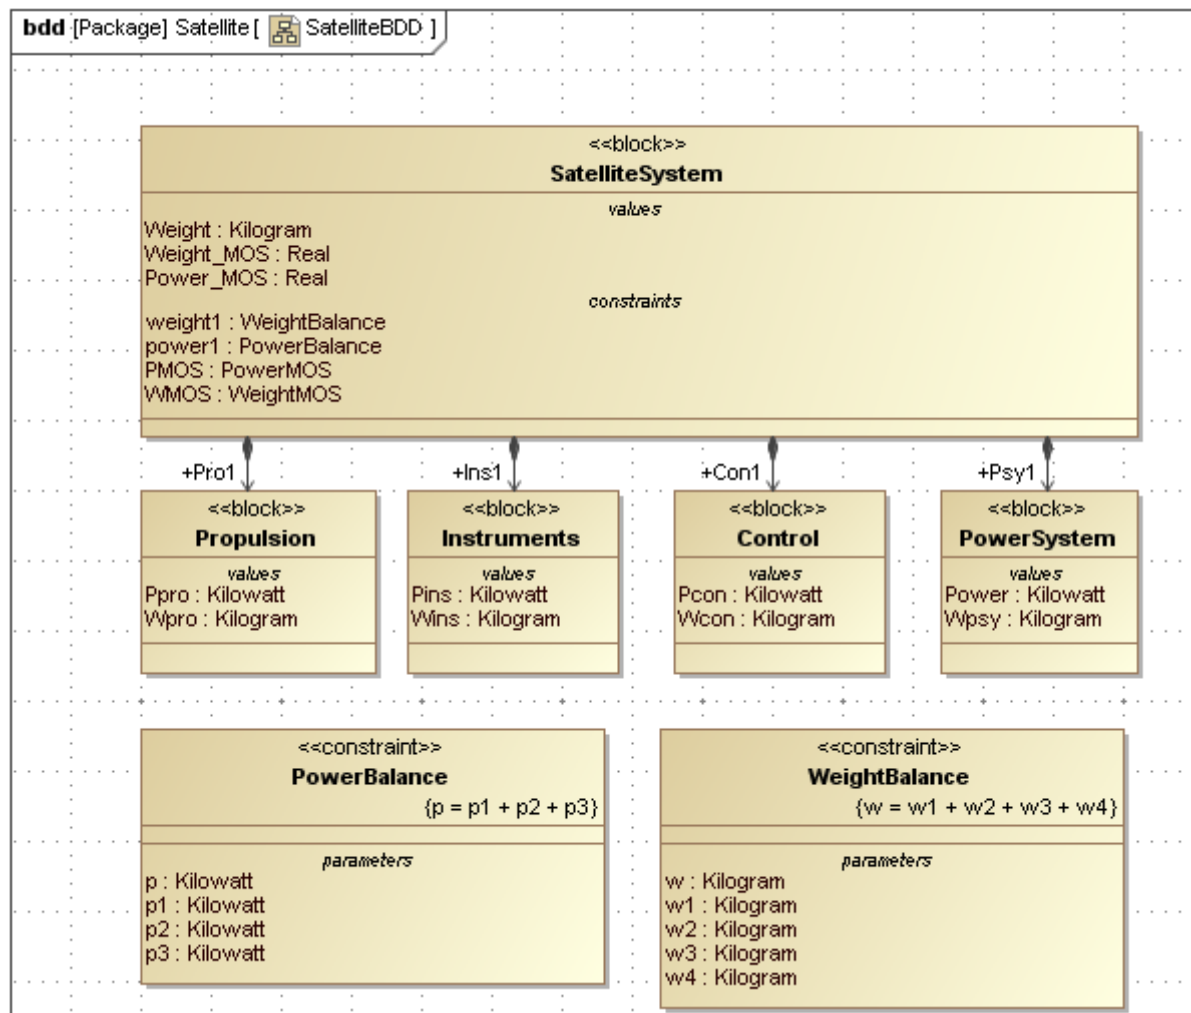

Figure 3.3 SysML Block Definition Diagram with Constraints
- f. Drag both new constraint blocks into the **SatelliteBDD** block definition diagram, which will appear similar to Figure 3.3.